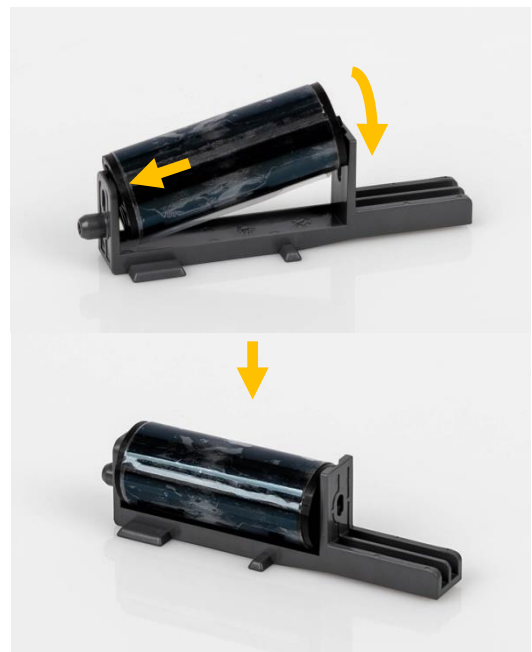

Figure 14 Installing the cleaning roller
- (7) Insert the disposable cleaning roller into the cartridge as figure 14.